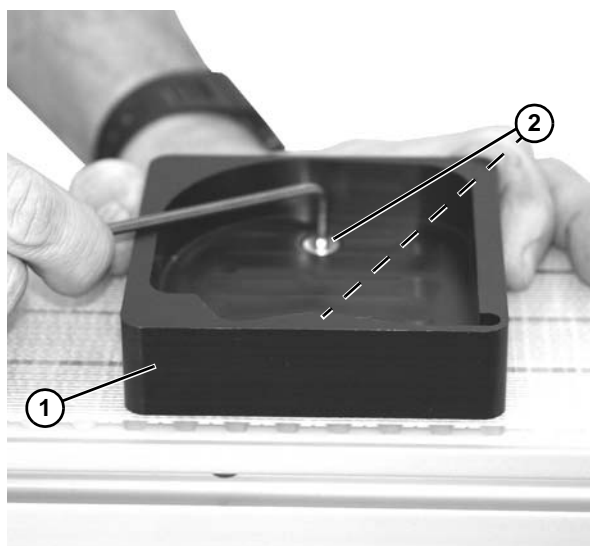

Figure 15
3. Install pallet (**Figure 15, item 1**) onto mounting inserts, and secure with M5 hex screws (**Figure 15, item 2**). Tighten M5 screws to 35 in-lb (4 Nm).